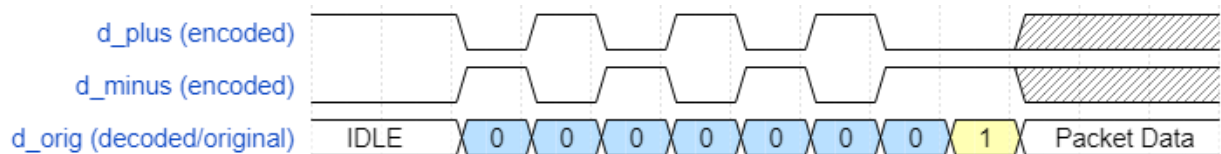

Figure 8: An illustration of the line encoded form of a USB packet's 'sync' field
1. A 'sync' byte, which after line encoding is string of transitions that enable easier initial data synchronization at the receiver (illustrated in Figure 8).